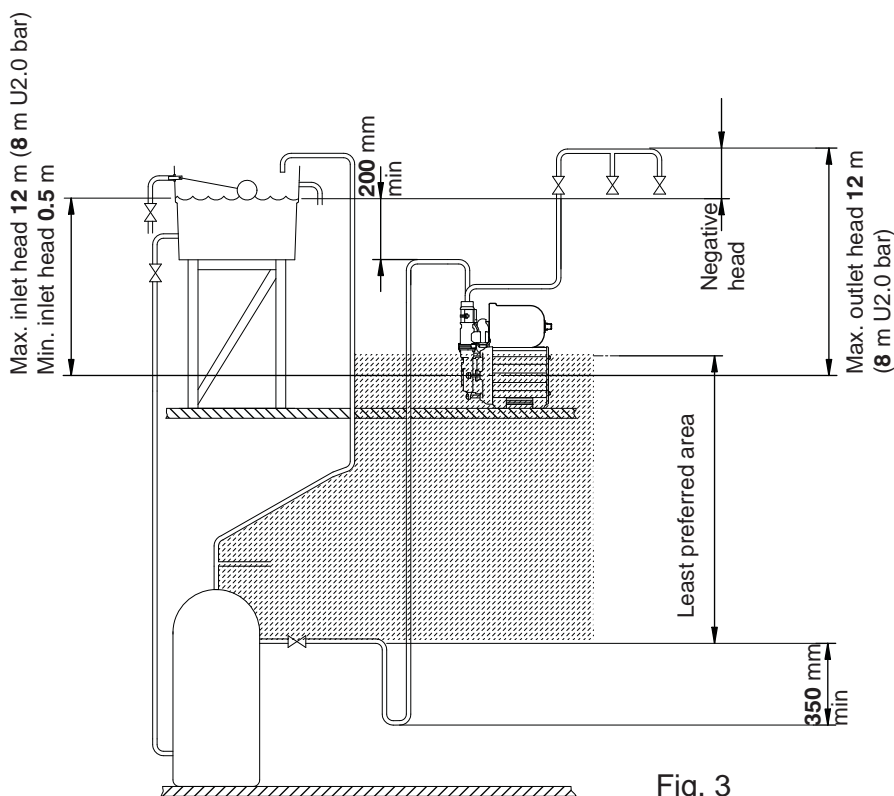

Fig. 3
- 2.26 **Non-preferred pump location:** If it is not possible to locate the pump in the preferred area due to site limitations and it is necessary to position the unit in the loft, or in a position above the secondary tapping that feeds the pump, then there is an increased risk of air locks. This risk must be eliminated. The following measure is a suggestion that may overcome the problem: A “U” bend or downward loop in the supply pipe to the pump of 350 mm depth before rising to the pump should ensure the cylinder vents its air up the expansion pipe, not up the pump feed (Fig. 3).